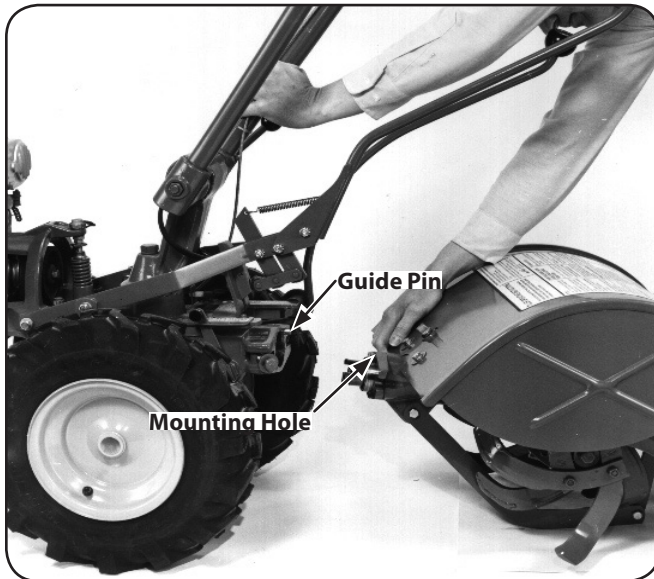

Figure 5-22
- Tip the PTO power machine forward about one inch with one hand while pulling the tine attachment back. See Figure 5-22.